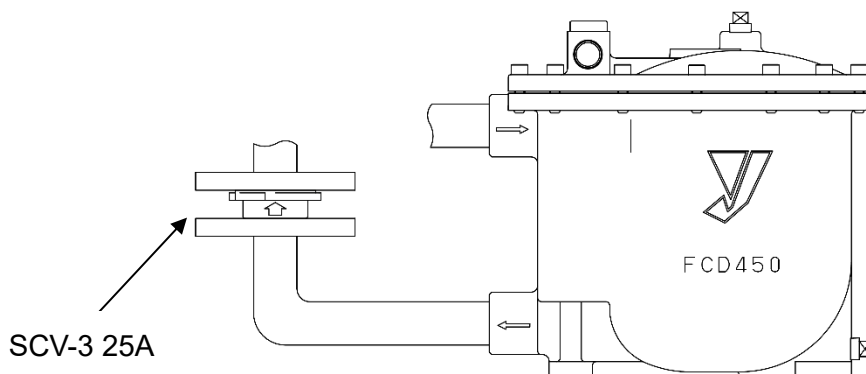

Fig. 7 (Example)
- (4) Connect pipes securely.
- (5) Flange joints shall be used for piping connections. (Refer to 4.1, Example of piping diagram.)
- (6) Do not apply any shocks by the water hammer or the like. Do not use the on-off valve before or after the product.
- (7) Do not disassemble the product unless necessary.
- (8) Attach the strainer before the condensate inlet and motive steam port. (Refer to 4.1 Example of piping diagram.)
- (9) Attach the check valve (SCV-2 or SCV-3 25A) to keep the discharge capacity at the condensate outlet side. Note the direction of the check valve. (See Fig. 7.)